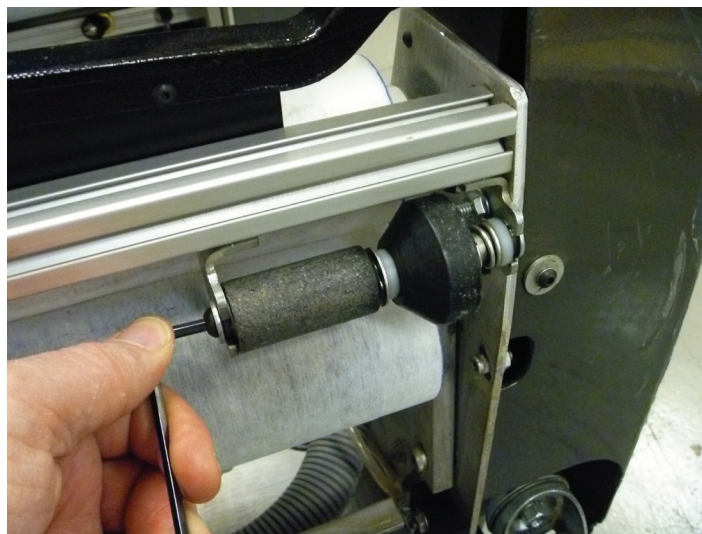

Figure 1
1. Start with the machine in the Transport position and remove the 7pin side transition roller shaft assembly using a 5/32" Allen wrench. Refer to *Figure 1*.